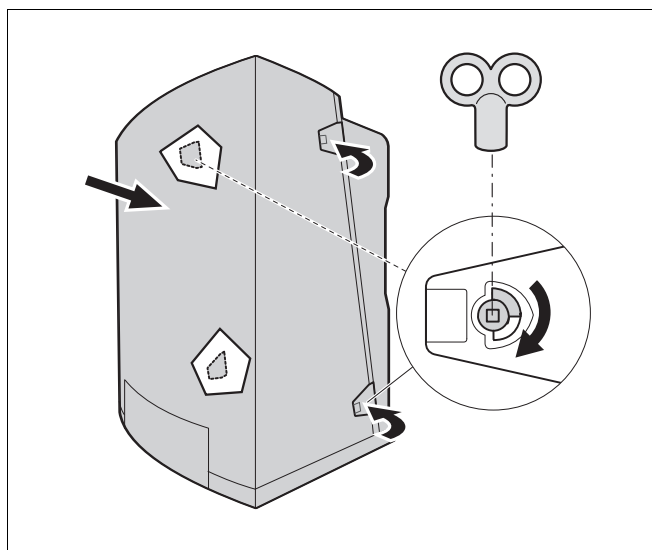

Fig. 41 Installing the casing
- Install the casing and close the latches (fig. 41). Do not lift the casing by the latches!